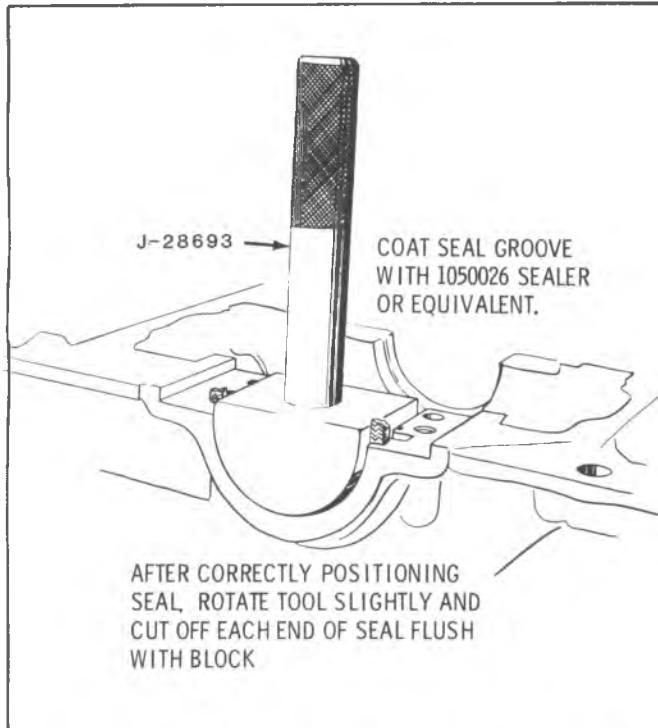

Fig. 6A6-92--Installing Rear Main Oil Seal-Upper Half
3. Install a new rear main bearing seal. (Fig. 6A6-92). Rear bearing must be removed to replace seal.
5. With a block of wood (Fig. 6A6-93) bump shaft in each direction to align thrust flanges of center main bearing. After bumping shaft in each direction, wedge the shaft to the front and hold it while torquing #3 cap bolts.